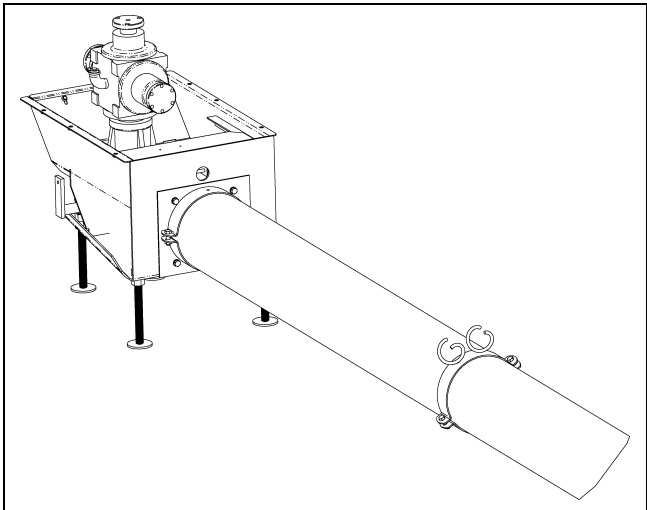

Figure 5N
13. Mount the control tube support clamps to the auger tube 2/3 of the way from the bin wall to the Grain Flow sump using a clamp band and two (2) 3/8" x 1-1/4" bolts and nuts. If optional intermediate sump is used, it replaces the control the gearbox side away from the flighting tube support bracket. (See Figure 5N.)